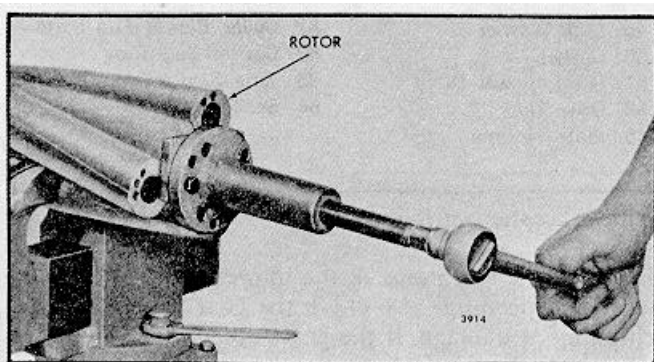

FIG. 8 - Removing Oil Seal Ring Carrier from Blower Rotor Shaft with Tools J 6270-2 and J 6270-31
- c. Refer to Fig. 8 and place the seal ring carrier remover adaptor J 6270-2 over the carrier. Make sure the adaptor is seated in the groove of the carrier.
- f. Turn the puller screw clockwise and pull the oil seal ring carrier and roller bearing inner race (front end of blower rotors only) from the rotor shaft (Fig. 8).